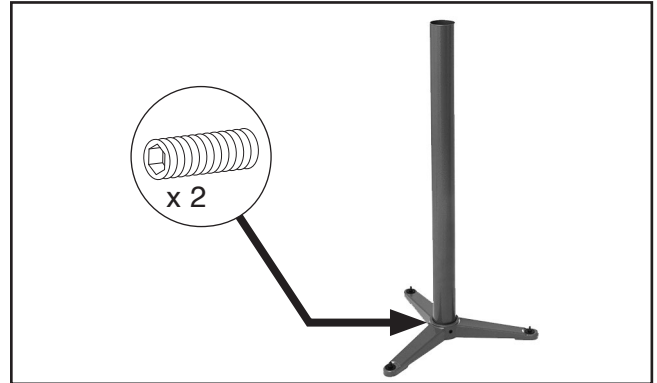

Figure 5. Column installed in base.
2. Loosen (2) pre-installed set screws in base and insert column, then tighten set screws to secure (see **Figure 5**).